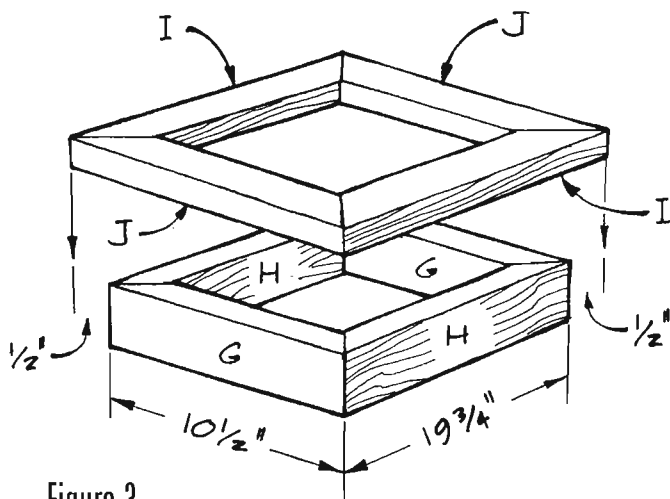

Figure 3
As shown in *Figure 3*, the base of the cabinet is an assembly of two mitered frames built from 2 x 4s. Note that the smaller frame on the bottom is made with the 2 x 4s standing on edge, and that the larger, upper frame is assembled with the 3-1/2-inch width placed horizontally. The top of the base extends 1 inch beyond the cabinet on the front and sides, and is flush with the cabinet in the back.
2. Cut two lower base side pieces (G) from the ripped 2 x 4, each 10-1/2 inches long.
3. With each lower base side piece (G) standing on edge, miter both ends at a 45-degree angle.
4. Cut two lower base front/back pieces (H) from the ripped 2 x 4, each 22-1/2 inches long.
5. Again, stand the pieces on edge, and miter both ends of each of the lower base front/back pieces (H) at a 45-degree angle.
6. Assemble the two lower base front/back pieces (H) and the two lower base side pieces (G), matching the mitered corners, as shown in *Figure 3*. Glue and screw the corners together using two 2-1/2-inch-long screws in each corner.
7. Cut two upper base front/back pieces (I) from full-width 2 x 4 pine, each 21-3/4 inches long.
8. Setting each upper base front/back piece (I) on its face, miter both ends at a 45-degree angle as shown in *Figure 3*.
9. Cut two upper base side pieces (J) from 2 x 4 pine, each 11-1/2 inches long.
10. Again, with each piece on its face, miter both ends of each upper base side piece (J) at a 45-degree angle as shown in *Figure 3*.
11. Assemble the two upper base front/back pieces (I) and the two
upper base side pieces (J), matching the mitered corners, as shown in *Figure 3*. Glue and screw the corners together using one 2-1/2-inch-long screw in each corner.